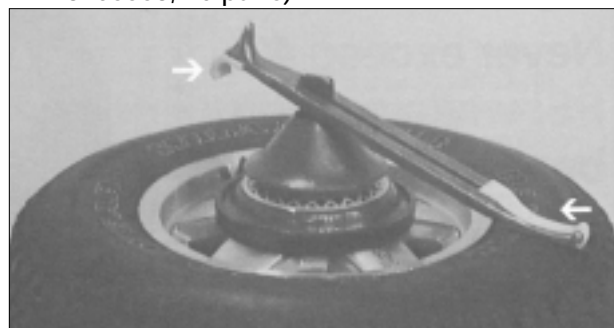

Figure 22 - Combination Tool Boots
6. Use the plastic combination tool boots supplied with the optional Speed Mag adapter to prevent scratching of custom wheels (figure 22). Boots may be ordered separately (part #8106568, 10 pairs).